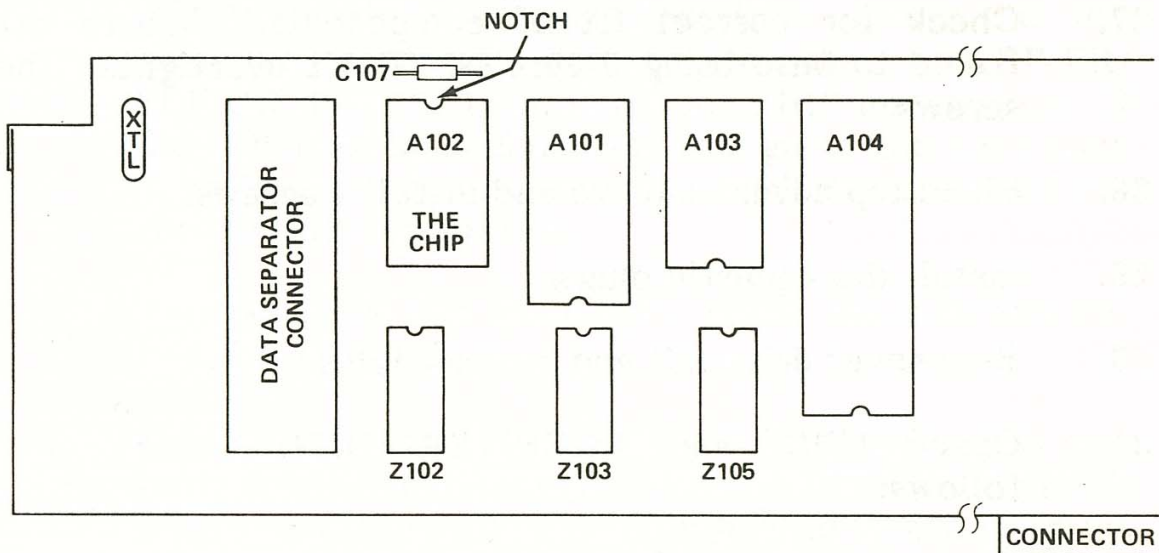

Figure 2-5. Identification of Components on Side Board
18. Remove the conductive foam from the CHIP and install the CHIP in IC socket A102. Refer to figure 2-5. Be sure that notch at end of CHIP is towards the top edge of the board. This is the opposite of most other IC's on the board. Be careful not to bend pins. If you do bend any pin(s), take the CHIP out and straighten the pins and try again.